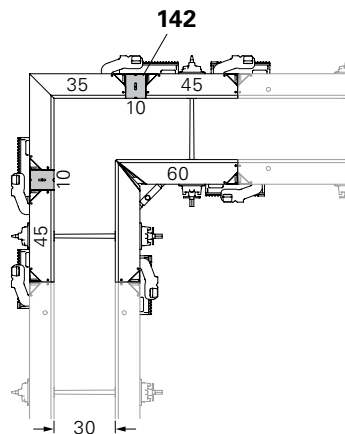

Fig. C2.05
- Wall thickness 30: Fig. C2.05